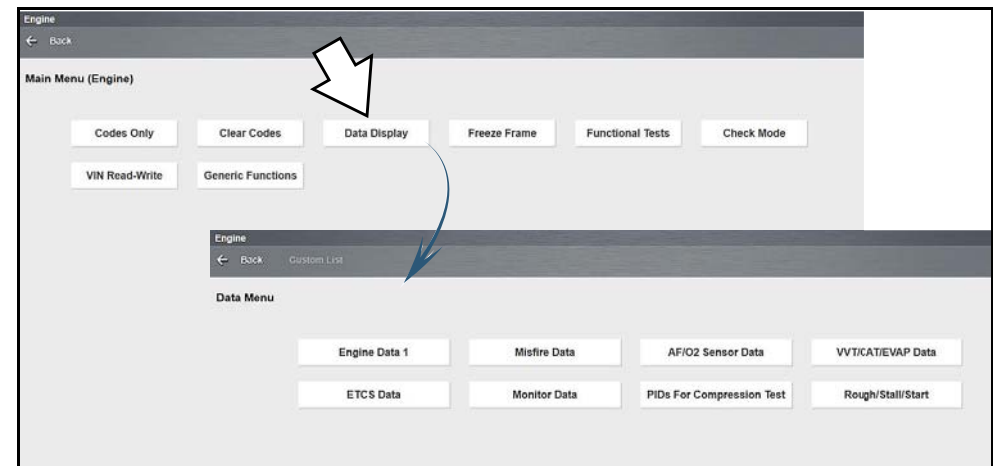

Figure 5-31
- A submenu of data viewing options opens (Figure 5-31).